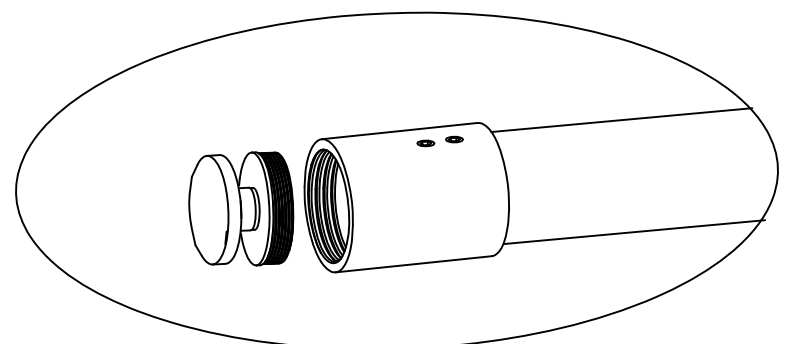

Fig. 10
10. Locate the Rail Mount Assembly (22) and remove the stainless steel fitting and glass connector parts from the metal sleeve. Loosen the set screws in metal sleeve and slide onto end of Top Rail (2) making sure the end of sleeve which is threaded is facing toward end of top rail. Loosely tighten set screws in metal sleeve to secure. See Fig.10 for details.